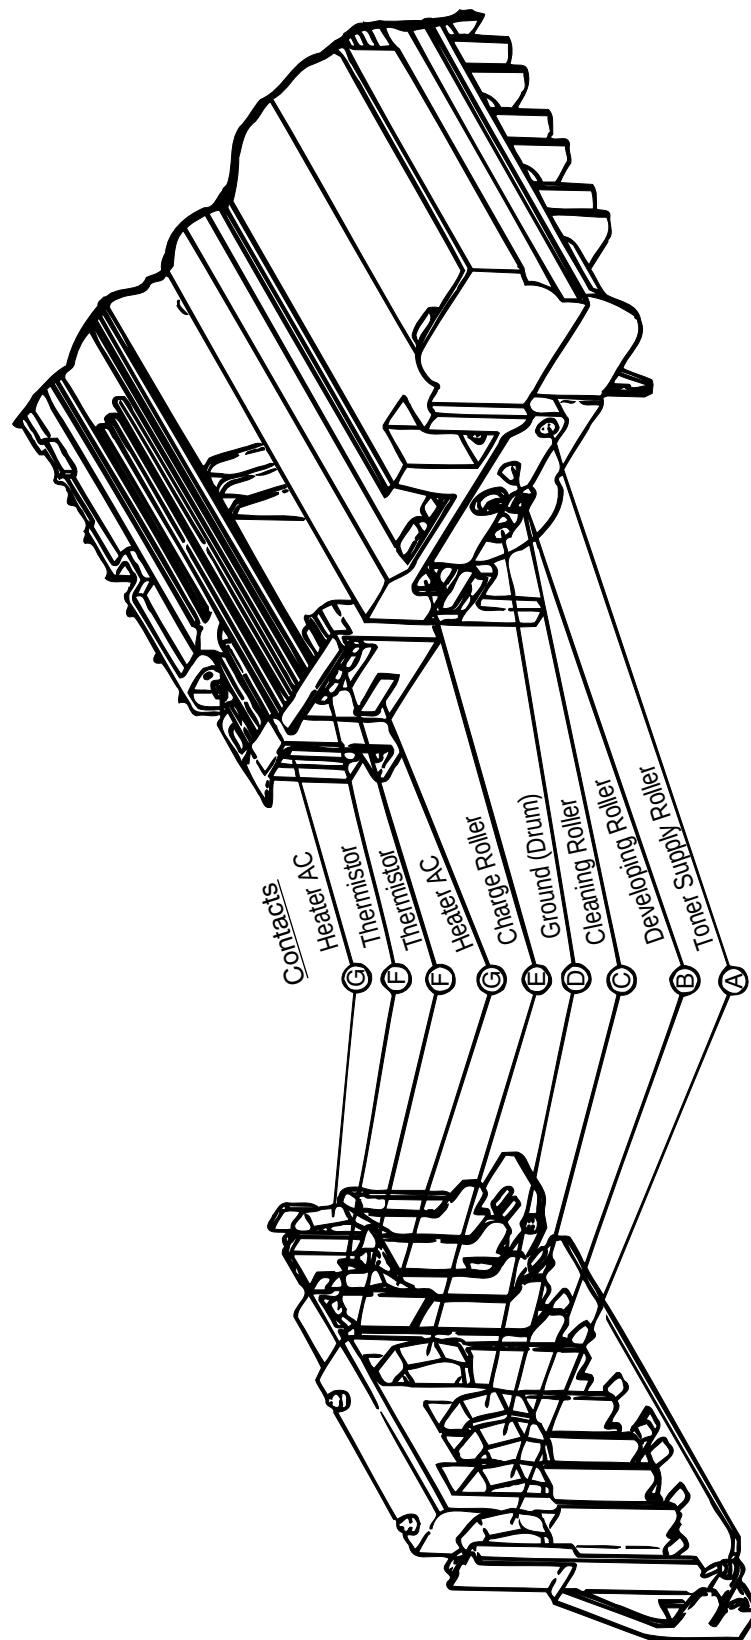

Figure 6-4
▼ Yes Are the contact of the developing roller and the contact of the toner supply roller of the image drum cartridge in contact with the contact assembly properly (see Figure 6-4 ① and ②)?